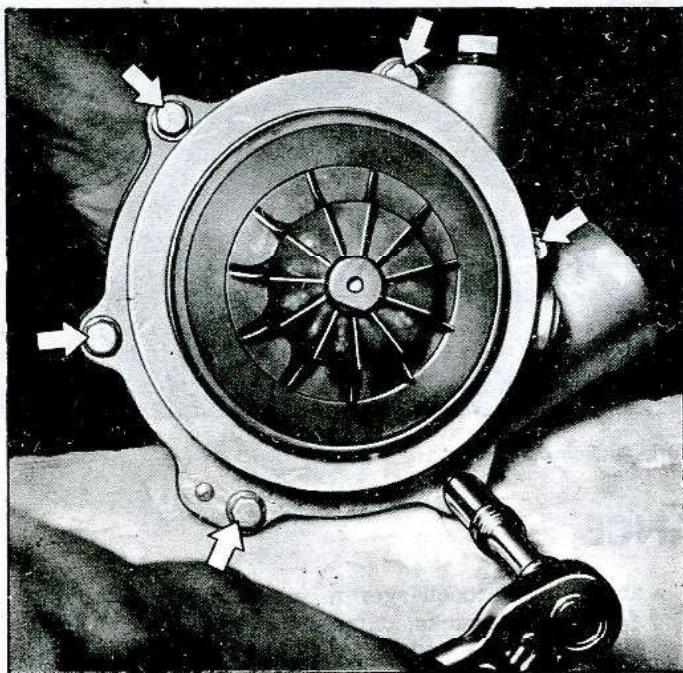

Fig. 36—Compressor Housing Retaining Bolts
5. Remove six retaining bolts (fig. 36) and remove compressor housing and gasket.